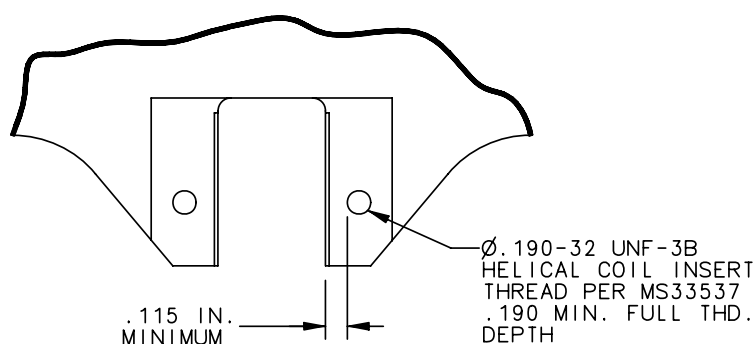

FIGURE 504
- C. Measure minimum edge to hole distance. Inner wheel halves with an edge to hole distance below the minimum specified in Figure 504 must be scrapped.